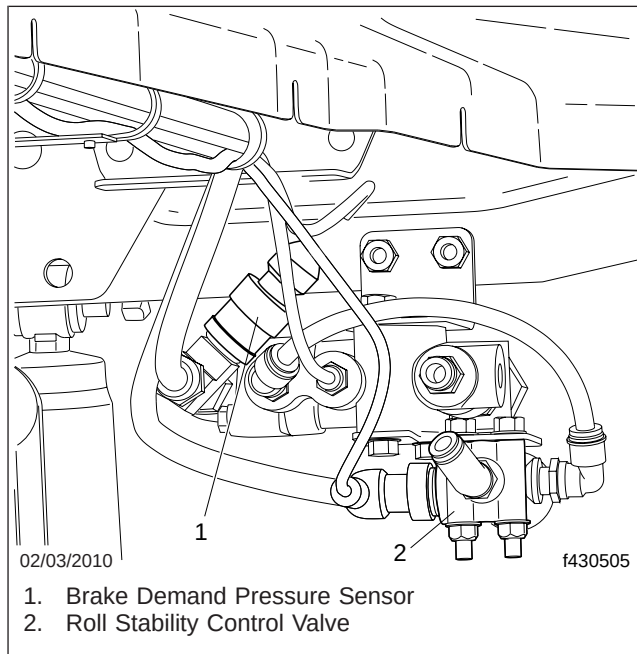

Fig. 1, Pressure Sensor (mounted on trailer protection valve)
3. Disconnect the electrical connector from the roll stability control (RSC) valve. See **Fig. 1**.